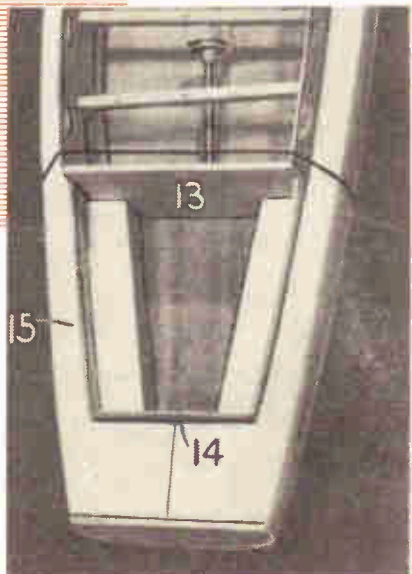

FIG. 9
The next stage is to add the forward, centre and stern bulkheads (12, 13 and 14) and the well sides (15), as seen in Fig. 8. Cover the stern of the boat (transom) with  $\frac{1}{4}$ in. wood and fill in the well and seats with  $\frac{1}{8}$ in. wood thus covering the joins in the hull. These parts are not shown on the design sheet, but should be cut to fit (see also Fig. 9).